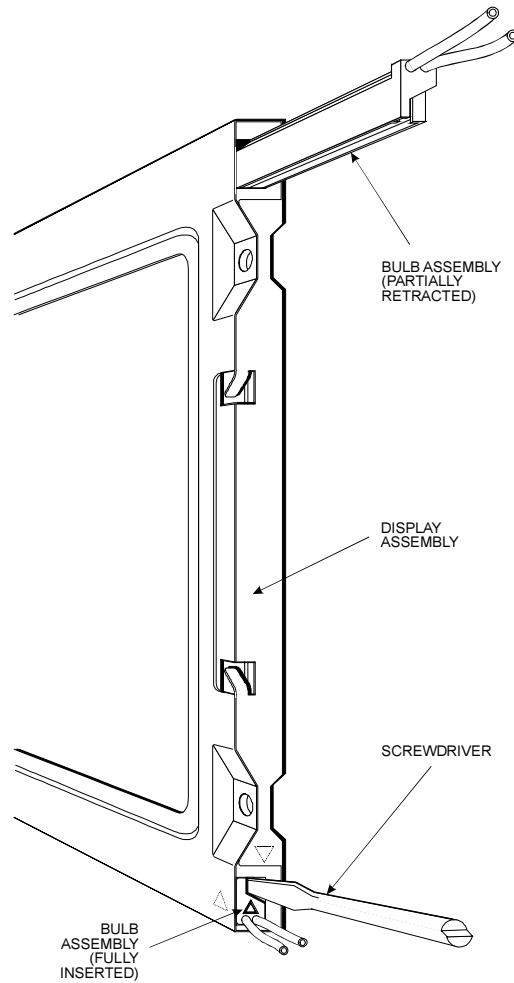

Figure D-4. Model #LQ12S41
22. Referring to Figure D-4, push in the tab at the end of the display with a flat-bladed screwdriver, and slide out the bulb assembly.